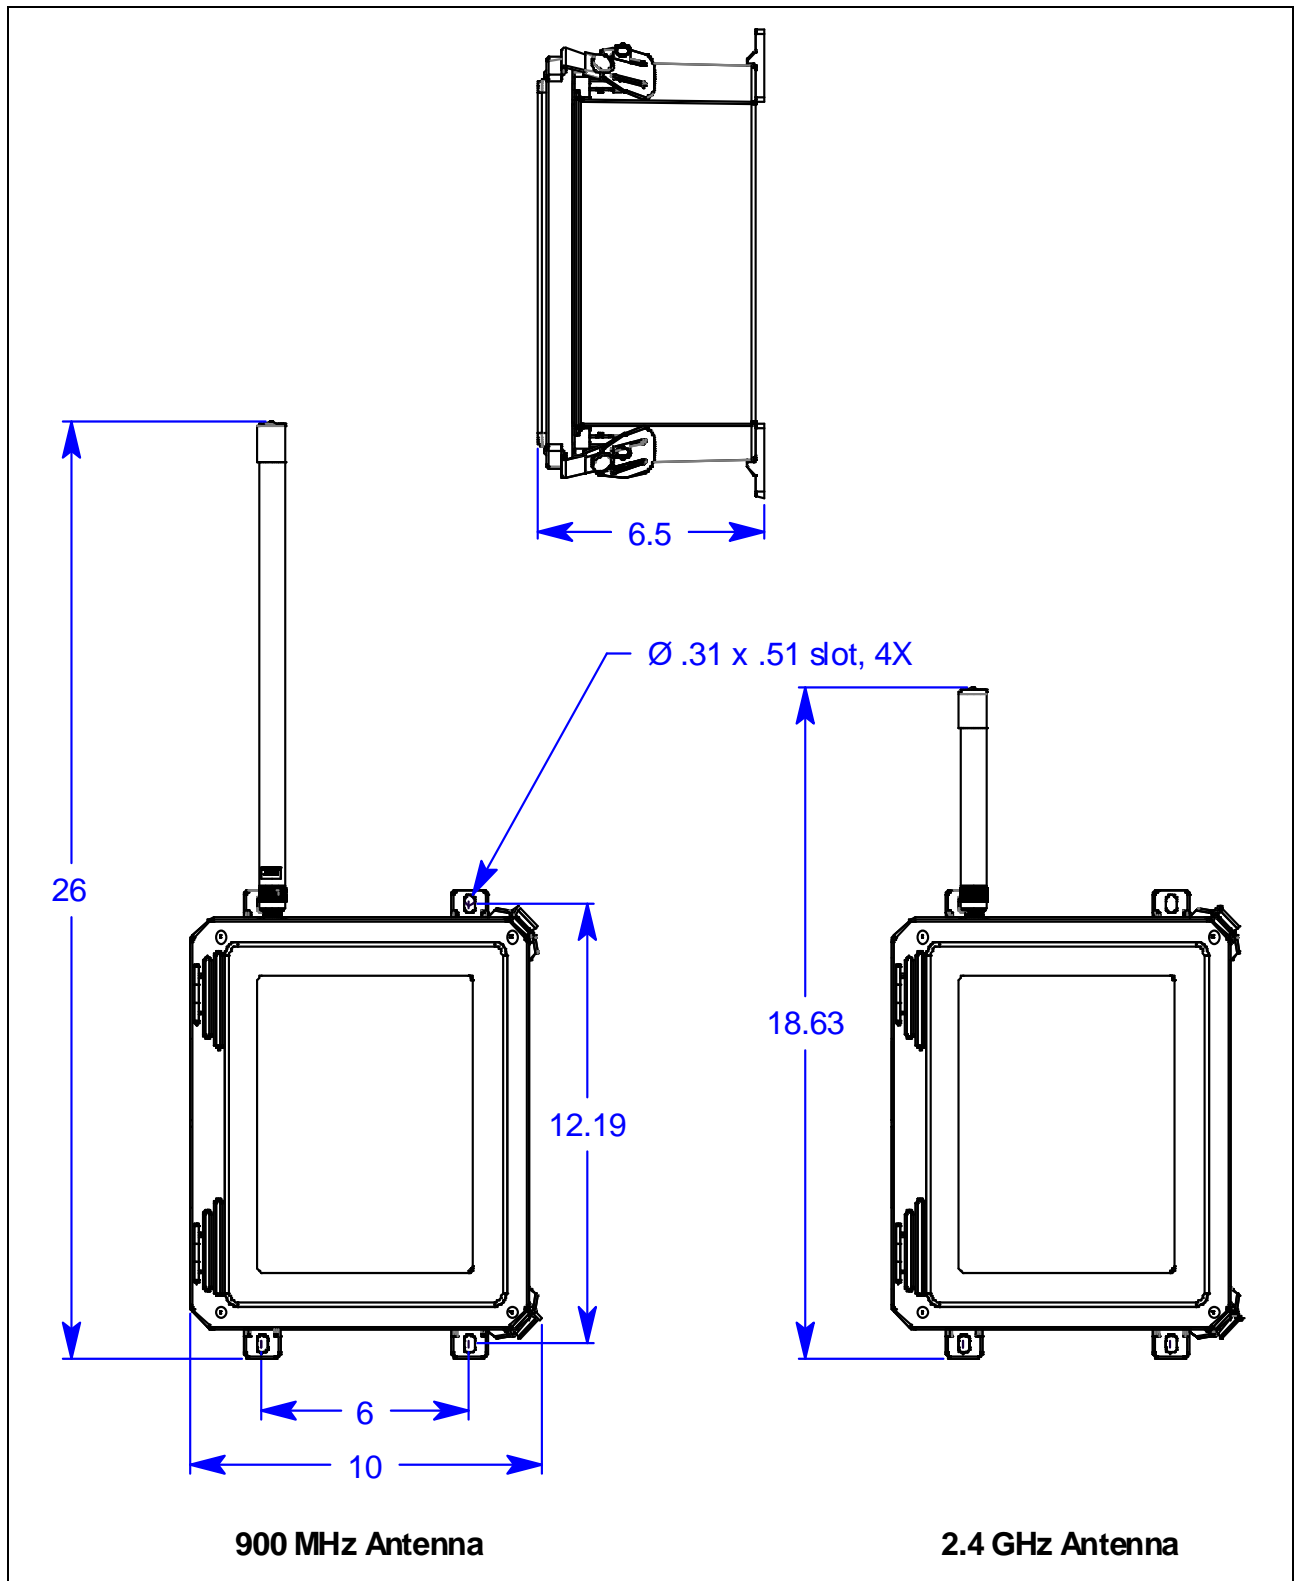

Figure 4: AirLink 9850 Outline and Mounting Dimensions
3. Prepare the selected mounting site as required to mount the AirLink 9850. It should be mounted at eye level (4 1/2 to 5 feet from the floor). Refer to Figure 4 for the outline and mounting dimensions.